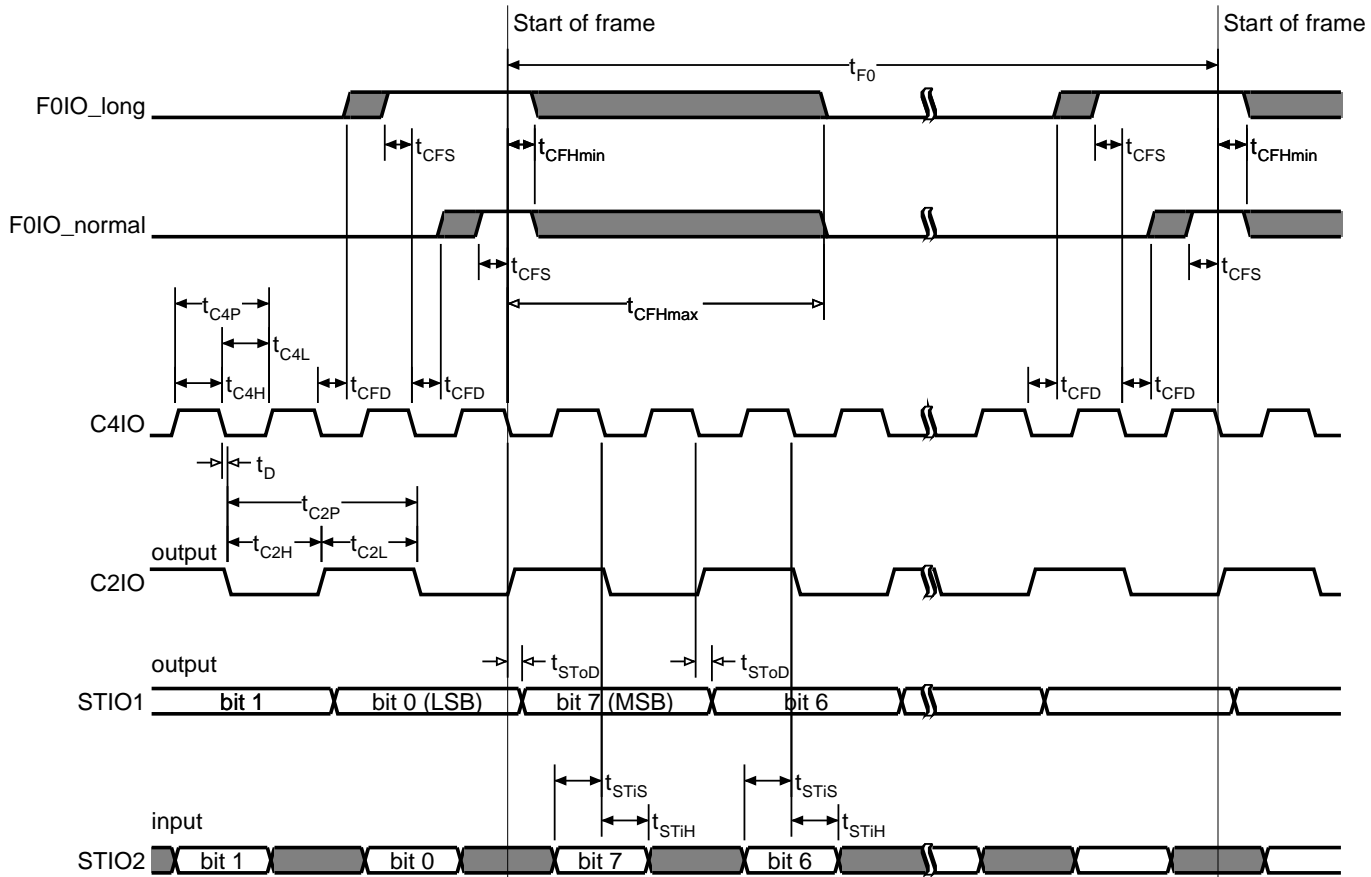

Figure 6.4: PCM timing for slave mode
Figure 6.4 shows the timing diagram for PCM slave mode. The timing characteristics are specified in Table 6.5. STIO1 is shown as data output and STIO2 as data input of XHFC-2S4U/4SU. However, both pins can change their I/O characteristic with every PCM time slot.
**Table 6.5:** Symbols of PCM timing for slave mode in Figure 6.4 (All values with 50 pF load. Larger load capacitance will increase output delays.)